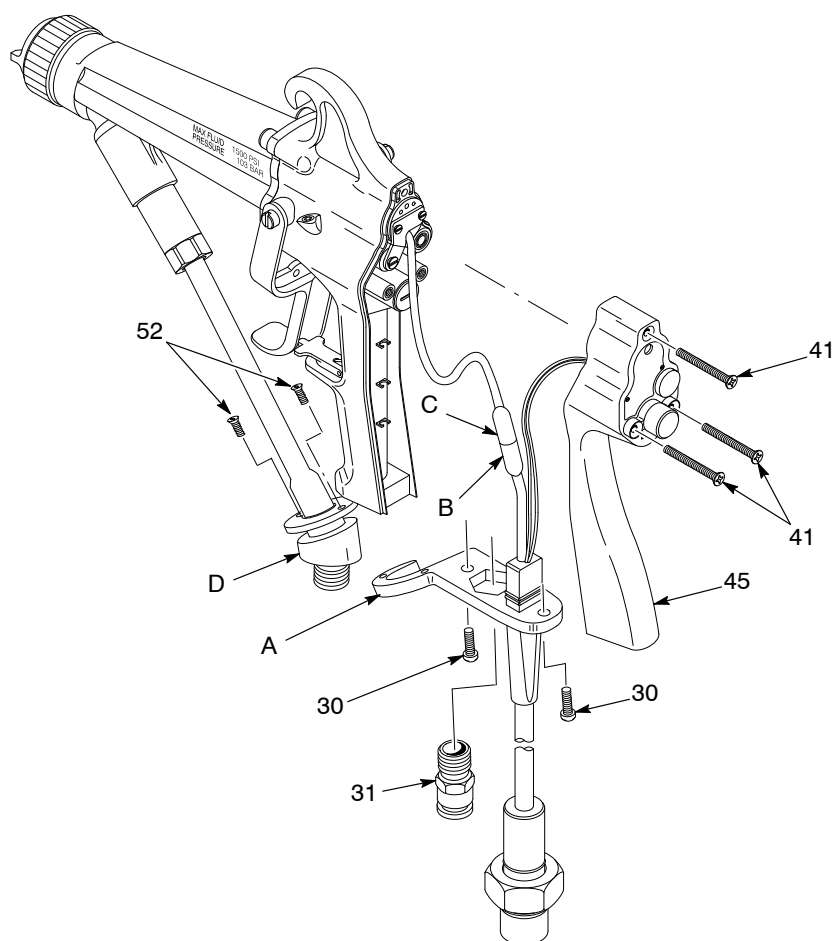

Figure 7-4 Air Inlet Fitting Replacement
1. See Figure 7-4. Remove the screws (30, 41) to remove the back cover (45) from the handle and ground bracket (A).
2. Remove the two screws (52) that attach the fluid hose fitting (D) to the ground bracket. Remove the fluid hose from the ground bracket.
3. Slowly pull the back cover away from the handle so you do not disconnect the cable connector (B) from the multiplier connector (C) or pull on the kV actuator switch wires.